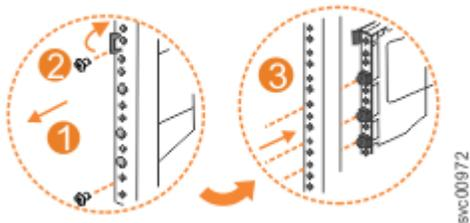

Figure 132. Remove the rail assembly from the front frame bracket
1. Remove the two screws that attach the outer rail section to the front bracket assembly, as shown in Figure 132 on page 121.
2. Remove the rail section by pulling it away from the front bracket, as shown in Figure 132 on page 121.